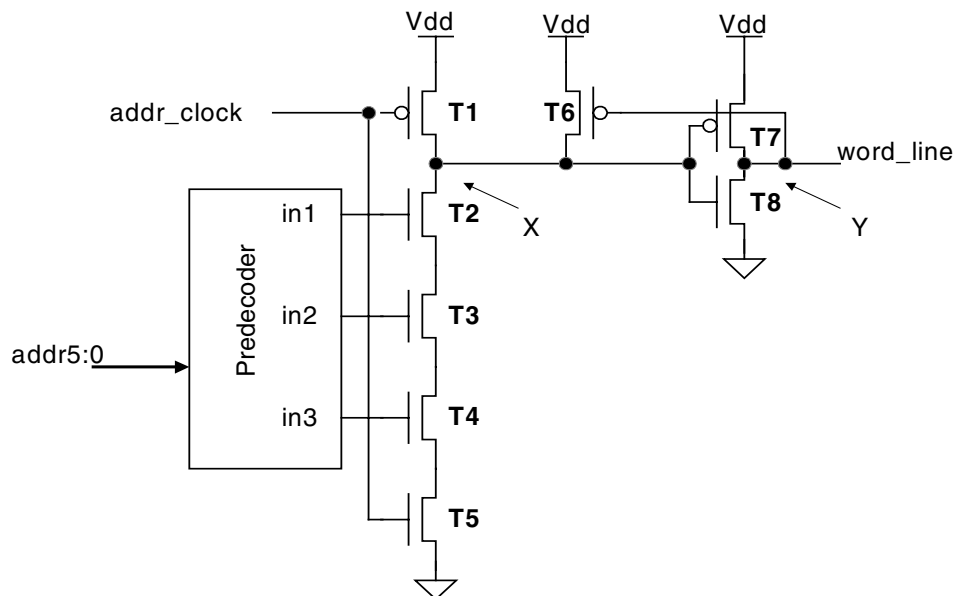

Figure 4a
5. Figure 4a shows part of an address decoder circuit for a CMOS memory chip. T1 and T6 are strong and weak transistors respectively when compared with the pull-down transistors T2-T5. The signals addr5:0 forms the 6-bit row address of a memory array.
- c) Design the layout of the decoder circuit shown in Figure 4a (excluding the predecoder) in the form of symbolic layout or stick diagram.